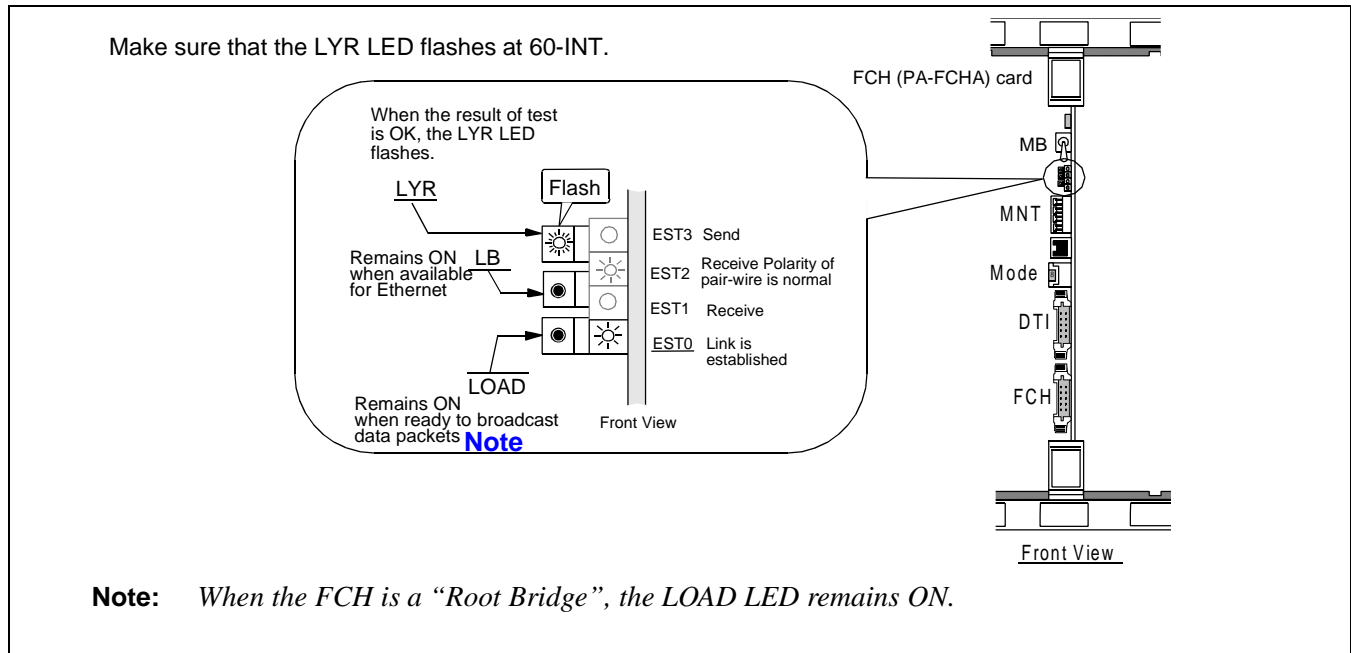

Figure 6-7 Fusion Link-Test Results
STEP 3: When the LYR LED flashes at 60-INT, the loopback in the block specified in Step 2 is OK. Refer to Figure 6-7.